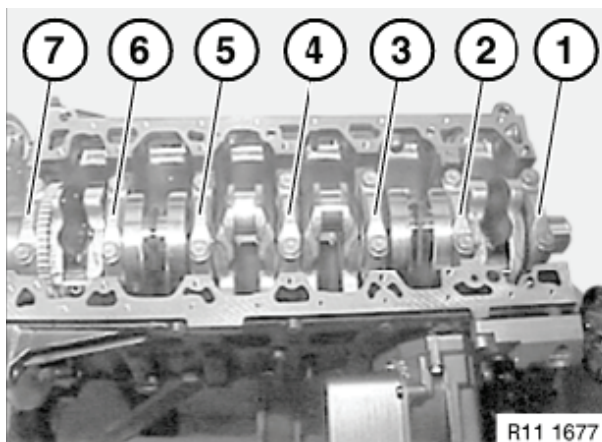

Figure 5-108
13. Remove the crankshaft bearing caps and main bearing inserts (**Figure 5-108**).